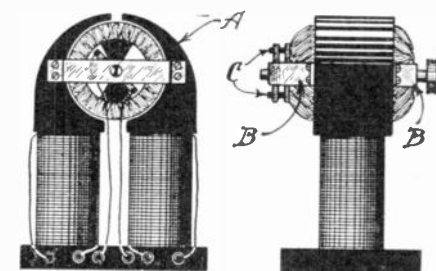

Fig. 7. Side and end view of the generator to be driven by the water wheel in the hydro-electric plant.
Fig. 7 shows two views of the completed dynamo, with the dimensions. The pole pieces (A) are cast iron. They should not be made until the armature is wound, as they can be made to fit the armature